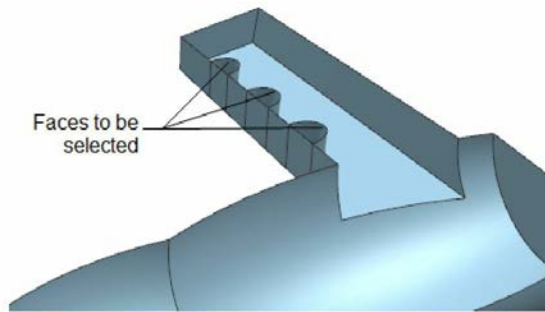
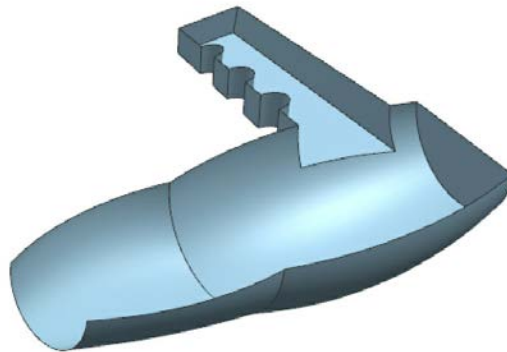

Figure 11-106 Faces to be selected
Figure 11-107 Resultant trimmed surface
9. Select the surfaces as the trimming objects, as shown in Figure 11-106 and then choose the **Keep** radio button from the **Region** rollout. Next, choose the **OK** button from the **Trim Sheet** dialog box. The rotated view of the resultant surface model is created, as shown in Figure 11-107.